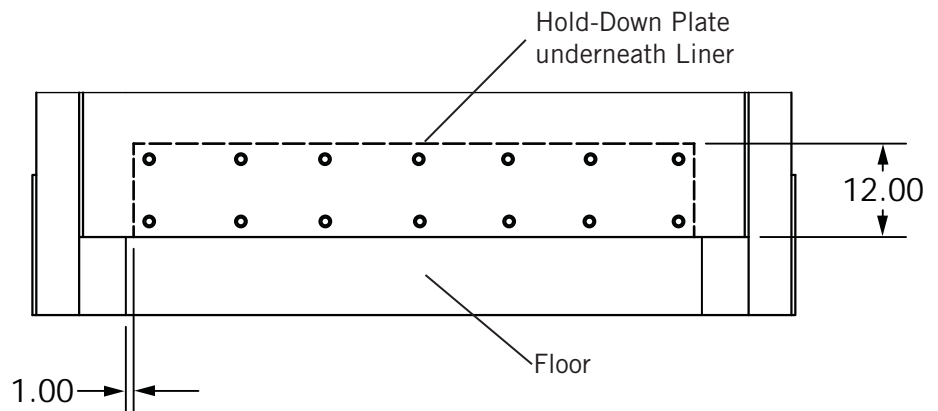

Figure 25
- 1) See Figure 25. Use 14 gauge (.0747") steel sheet to construct the hold-down plate.